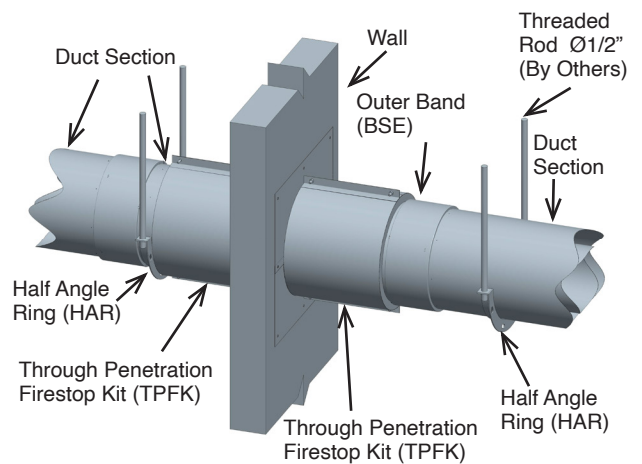
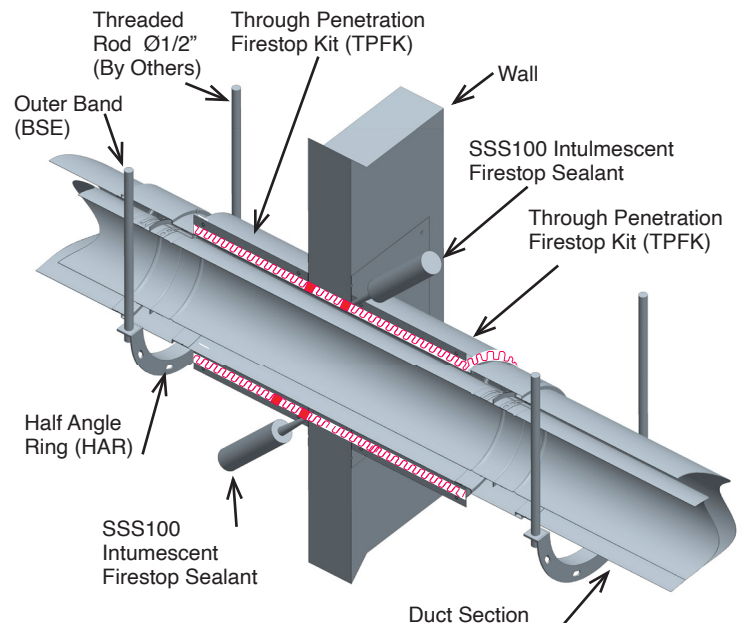

Figure 108: Supports for duct through fire-rated wall (DIS3Z only)
Figure 111: TPFK Assembled Through a fire-rated Wall (DIS3Z only)
Ducts that penetrate a fire-resistance wall (up to 2hr fire-rated) have to be supported on both side of the wall. It can either be supported by bracing a HAR, a AP or APL. See Figure 108.
- For Wall Penetration, use two TPFK's. See Figure 111 and Figure 108.
NOTE: The cover plates, wrap insulation and split closure bands are installed on the top surface of a floor penetration and on both surfaces of a wall penetration. See Figure 111 for the penetration through a wall.